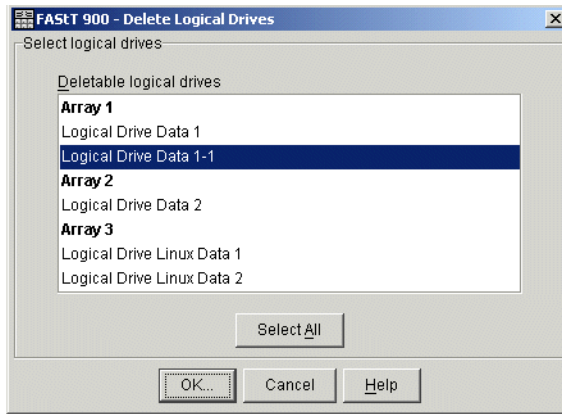

Figure 7-48 Delete FlashCopy Logical Drive dialog
3. The Delete FlashCopy Logical Drive window opens as shown in Figure 7-48. Highlight the FlashCopy Logical Drive(s) you wish to delete and click **OK**. Be careful not to delete the wrong logical drive.